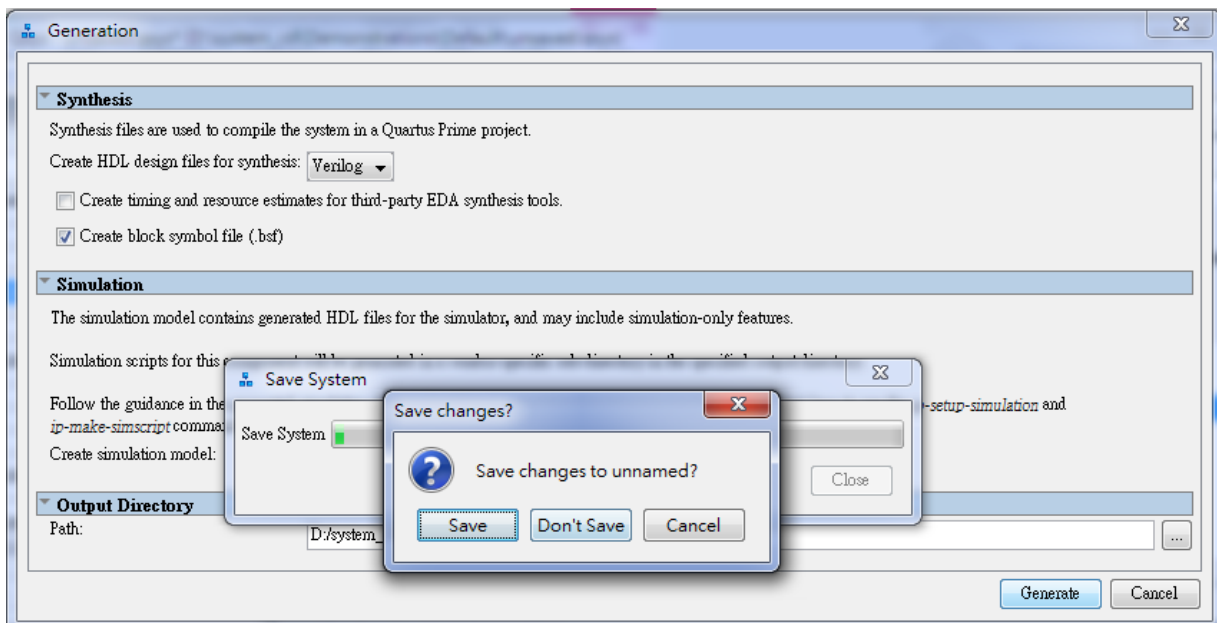
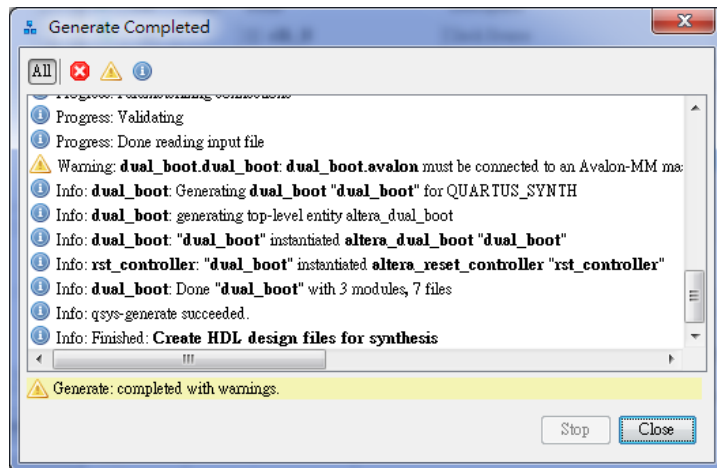

Figure 6-8 Generate and Save Qsys.
Figure 6-9 Generate completed.
- Choose **Generate > Generate HDL..** and click **Generate** then pop a window as shown in **Figure 6-8**. Click **Save** it as **dual_boot.qsys** and the generation start. If there is no error in the generation, the window will show successful as shown in **Figure 6-9**.